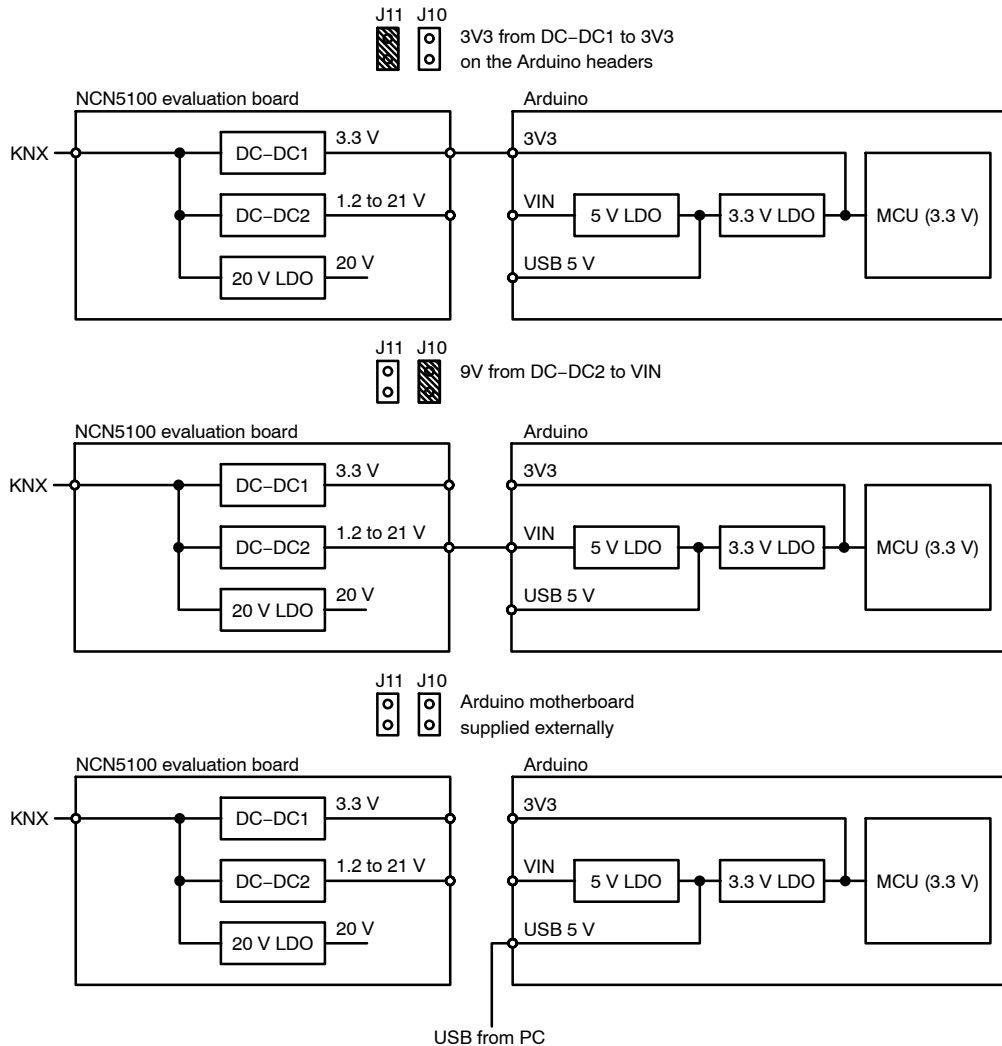

Figure 6. Jumper Settings for the Three Possible Supply Configurations
On the shield, there is always a 3.3 V supply present, which is also used to supply the KNX transceiver. This supply voltage can be routed to the 3V3-pin on the Arduino headers by shorting J11 (Figure 6).
The shield can supply the microcontroller through the VIN-pin. When J10 is shorted (see Figure 6), the 9 V generated by DC-DC2 is routed to the VIN-pin. In this configuration, the whole system is supplied through the KNX-bus and no additional power supplies are required.
- The microcontroller development board may be supplied through an external supply. This occurs when debugging the board through USB with the KNX-connector disconnected. In this case remove both J10 and J11 (Figure 6).
The transceiver's 20 V LDO and DC-DC2 converter can be used to power additional circuitry, e.g. a relay. When additional shields are stacked, which take their power from the VIN-pin, these can be powered by connecting DC-DC2 to the VIN-pin. This can easily be done by placing J10 as shown in Figure 6.